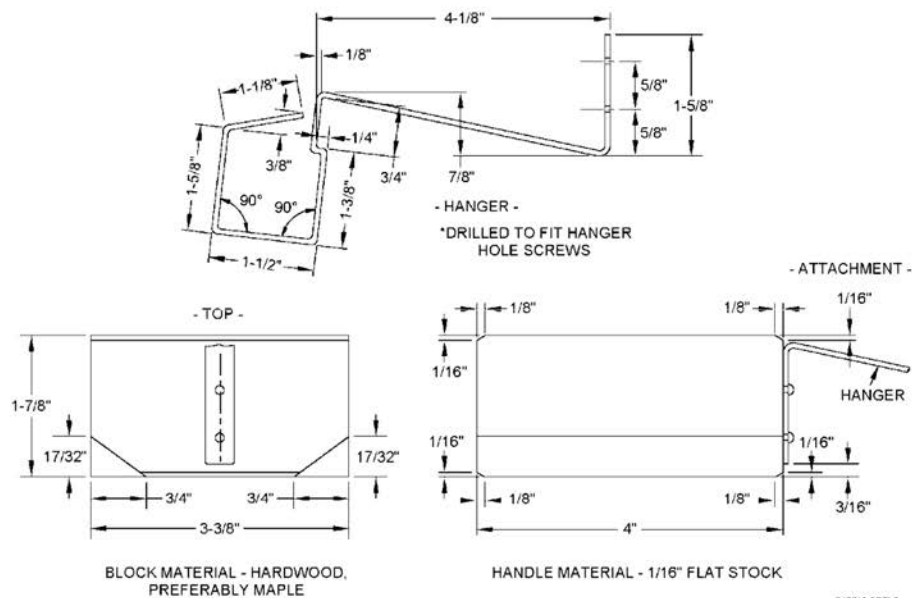
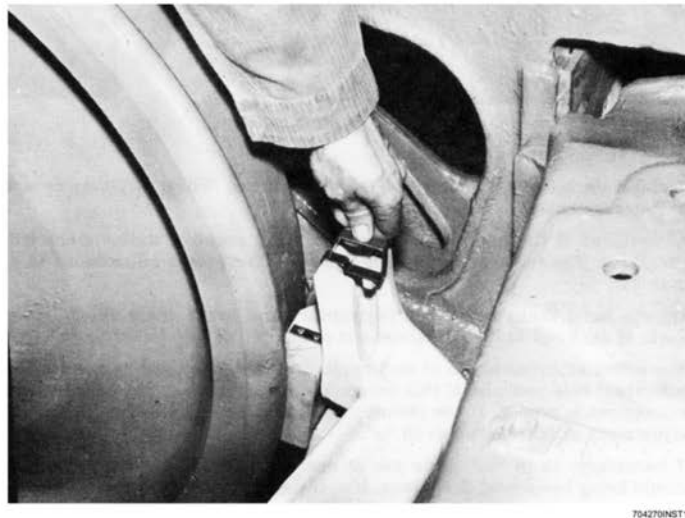

Figure 16: Spacing Block and Hanger Dimensions
Figure 17: Spacing Block Placement
- 5.4.1.17 Insert spacing blocks (See Fig. 16 for block dimensions) between brake heads of both beams (1) and four wheels as close as possible to the flange (See Fig. 17). If push rod adjustment is necessary to permit spacing block insertion, rotate the push rod end to shorten the push rod (when facing the bolster from the pressure end of brake cylinder and with wrench handle upward, moving the wrench handle to the right will shorten the rod and moving to the left will lengthen the rod).